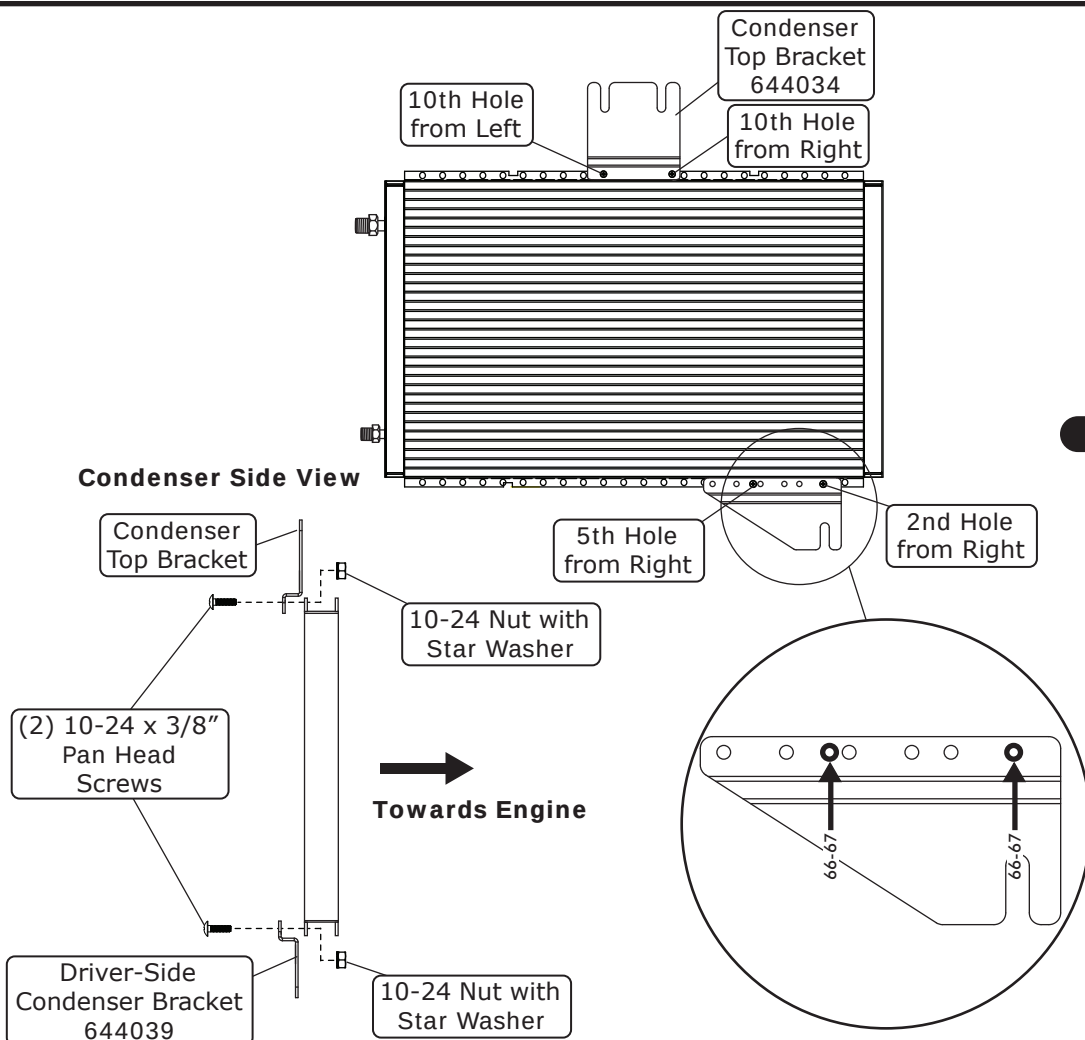

Figure 1
1. Install mounting brackets onto the condenser using 10-24 x 3/8" pan head screws and 10-24 nuts with star washers as shown in Figure 1, below.
1. Lubricate (2) #6 O-rings (See Lubricating O-rings, Page 5 and Figure 1, below), and install the #6 hardline as shown in Figure 1, below.
1. Install the condenser in front of the core support as shown in Figure 1, below, using OEM bolts.